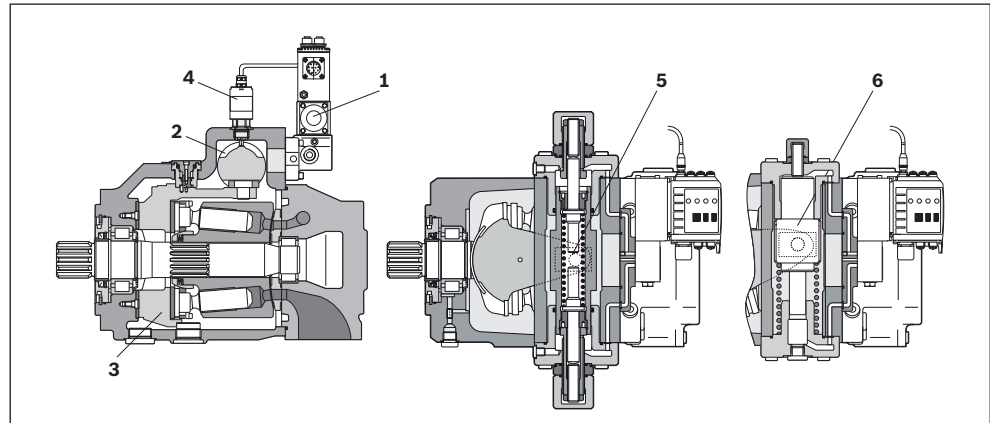

Fig. 2: Cutaway diagram of A4VSO...HS5E and HS5EV
The sectional view (see Fig. 2, position 5) shows the A4VSO variable pump with HS5E control; the on-board control electronics actuates the proportional valve (1).
The sectional view (see Fig. 2, position 6) shows the A4VSO variable pump with HS5EV control; the on-board control electronics actuates the proportional valve (1).